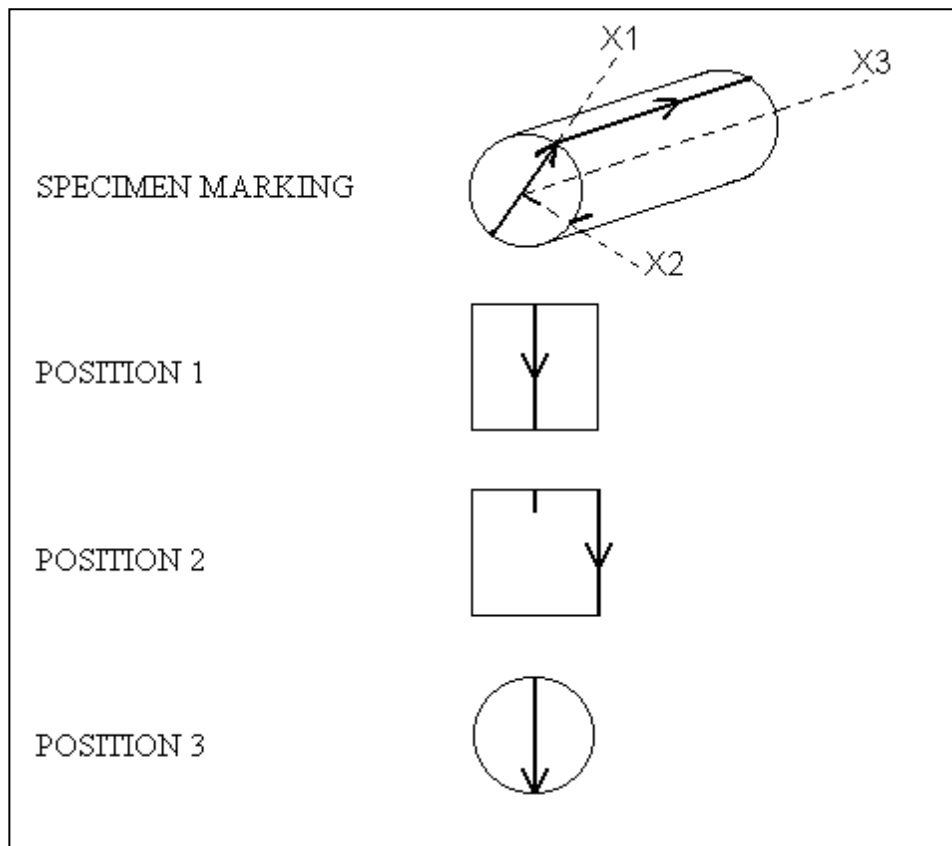

Fig. 3 Measuring positions of the specimen
- Before pressing Key F1, one has to fix the specimen into the specimen holder in the measuring position No. 1 (see Fig. 3).